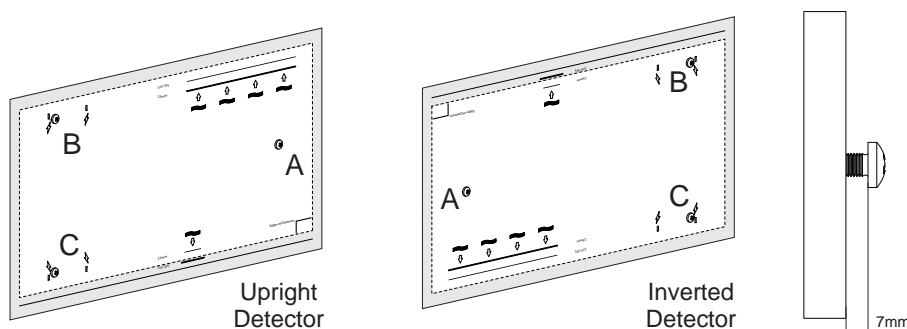

Figure 4-24: Insert mounting screws
- Insert two M4 button head screws at positions A and B such that the screw head is protruding 7 mm from the wall (Figure 4-24). Drill a pilot hole at position C for later insertion of a screw at Step 12.